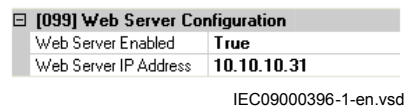

Figure 28: Enable Web Server for parametrization
- Set two parameters in SAB600, see Figure 28: